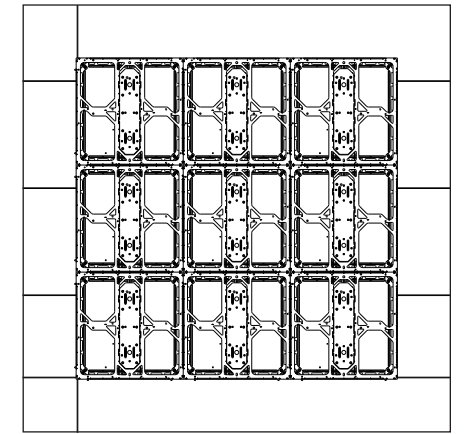

Figure 8: Install Remaining Panels
9. Continue attaching panels up to the top row. Refer to Figure 8.